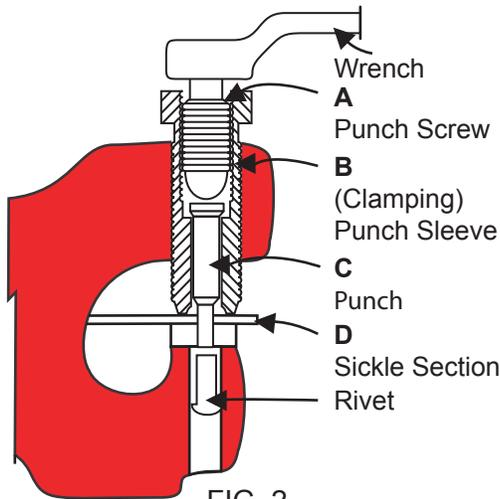

FIG. 2
Step 4. With wrench, apply gradual pressure to Punch (C), forcing rivet out through hole in lower jaw of tool, as shown in Fig. 2.
Step 5. Once rivet has been forced out, back off (clamping) Punch Sleeve (B) and Punch Screw (A) sufficiently to remove tool from sickle bar.